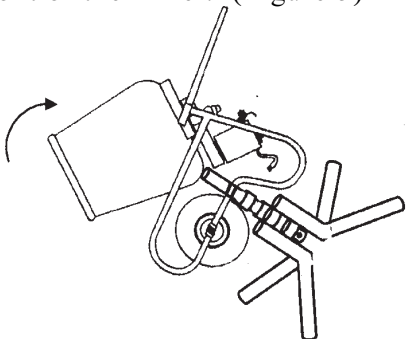

Figure 5 - Tilt mixer upright onto stand
4. Once the stand has been attached, move to the opening side of the drum and begin tilting the mixer upright onto the stand. Always bend your knees and use correct posture for lifting. Always tilt from the front of the mixer. (Figure 5)